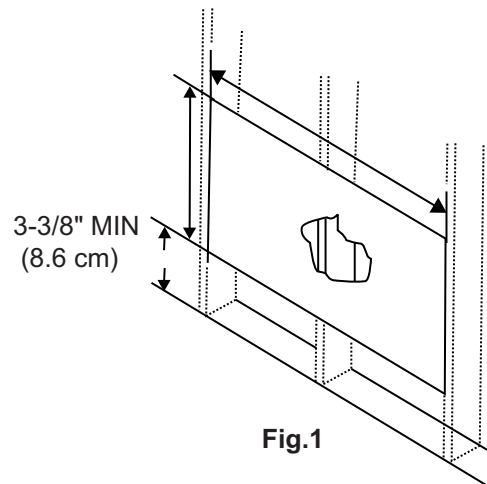
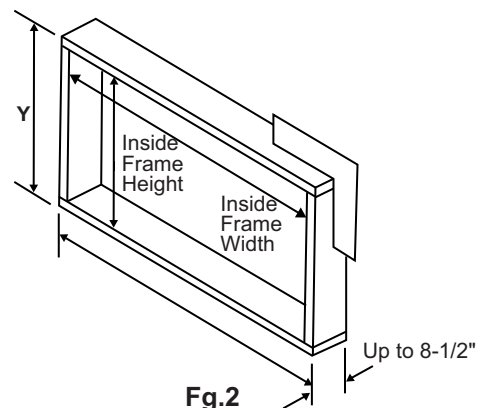

Fig. 1
Fig. 2
(See Fig. 1).
These screws will be needed to re-install the front panel (see Fig.2).
3. Measure between inside edges of every other stud as shown in Fig. 1.
Carefully measure and cut an opening with the following dimensions depending on your model. See Fig. 1 and Fig. 2.